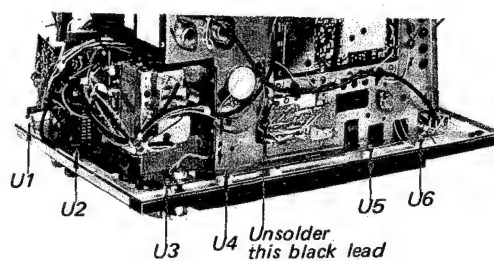

Fig. 2-27.
13. Remove the six screws labeled U1~6 in Fig. 2-27.
16. Unsolder the black lead that is connected to the bottom of the chassis as shown in Fig. 2-27.